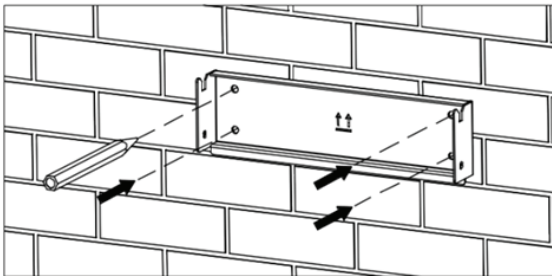

Figure 10 Determine the punch position
- (1) Use the punch positioning plate in the packaging box to determine the punch position. As shown in Figure 10 Level the holes with a level ruler and mark it with a marking pen.